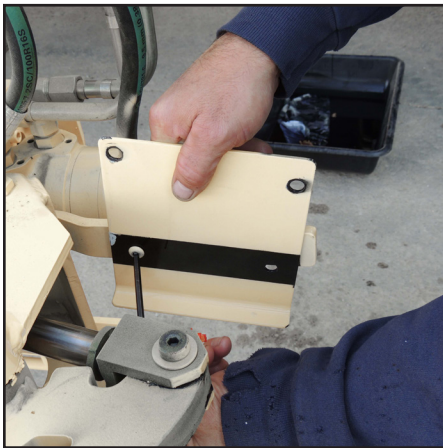

Figure 7
13. Remove and discard the plate that held the hose clamps using a 7/32" Allen wrench (Figure 7). Retain the screws.